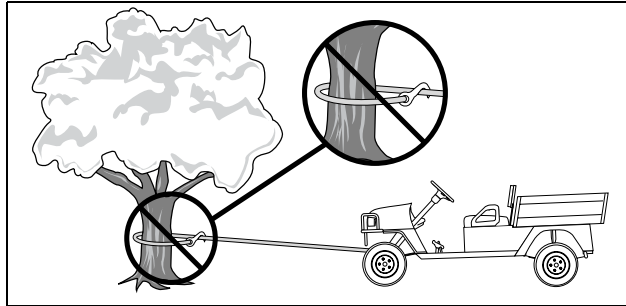
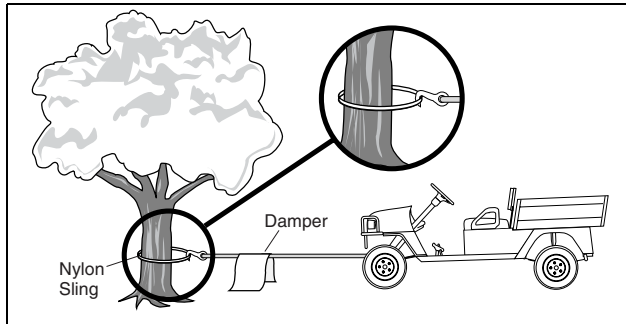

Fig. 6 Do Not Hook Cable to Itself
Fig. 7 Use a Nylon Sling and Install a Damper when Winching
*To prevent damage to the wire cable, never hook the cable to itself. Always use a nylon sling (Ref Fig. 6 on page 3-7) (Ref Fig. 7 on page 3-7).*
*Stay clear of the winch, the cable and the cable hook. Place a heavy cloth, jacket or blanket over the cable to act as a damper should the cable break when operating the winch (Ref Fig. 7 on page 3-7).*